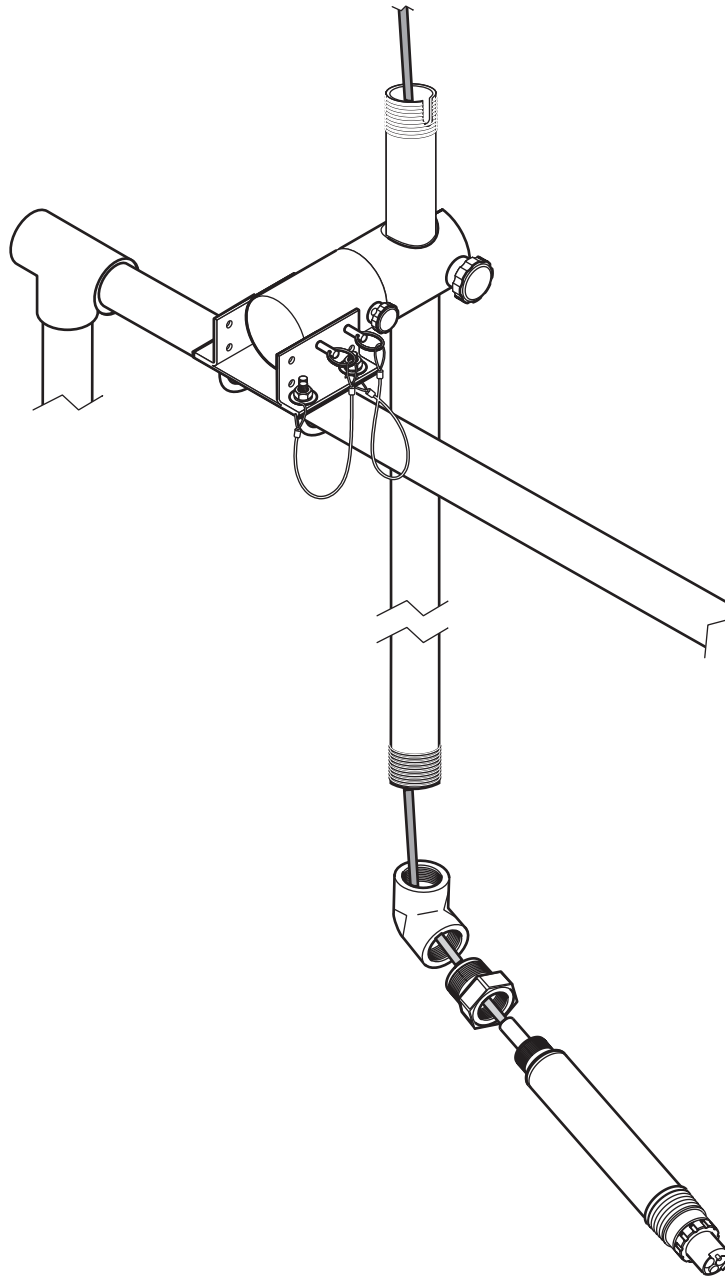

Figure 7: Installing the sensor
- Installing the sensor without a cleaning unit—Guide the sensor cable through the reducer, the elbow and the immersed pipe. Bolt all the pieces together (Figure 7: on page 8). When installing the sensor without a cleaning unit, fit the plug from the set of small parts above the sensor cable.